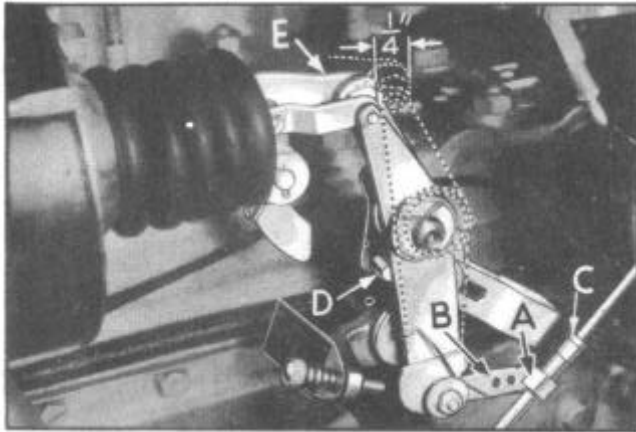

Figure 17--Piston Travel Adjustment
With guide block (A), Figure 17, in the rear hole of cam lever (B), adjust valve lever cam threaded